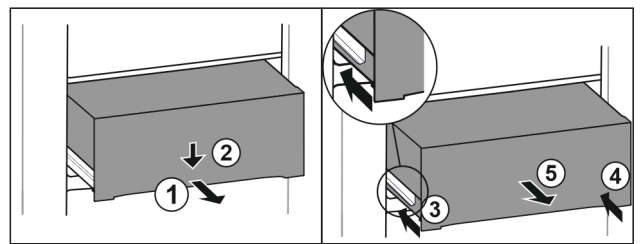

Fig. 82
- ▶ Pull out drawer half-way. Fig. 82 (1)
- ▶ Push the drawer down at the front. Fig. 82 (2)
- ▶ Push the left rail in by about 2 cm. Fig. 82 (3)
- ▶ Push the right rail in by about 2 cm. Fig. 82 (4)
- ▶ Remove drawer to the front. Fig. 82 (5)